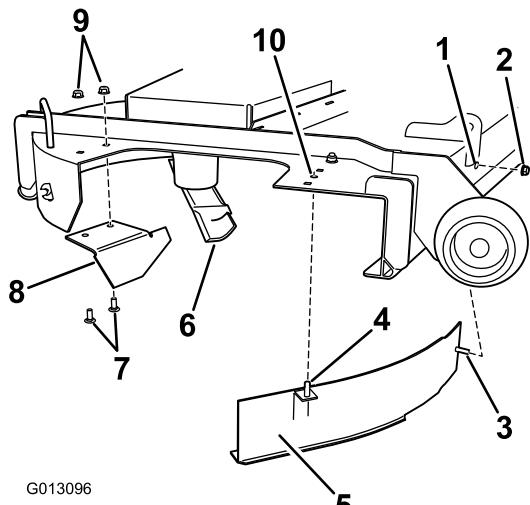

Figure 10
3. Locate and install the angled cutoff baffle to the mower deck at the rear holes in the mower deck (Figure 10).
4. Install the curved baffle to the mower deck (Figure 10).
Replace the previously removed cutoff baffle for 60 inch mower decks (Figure 10).